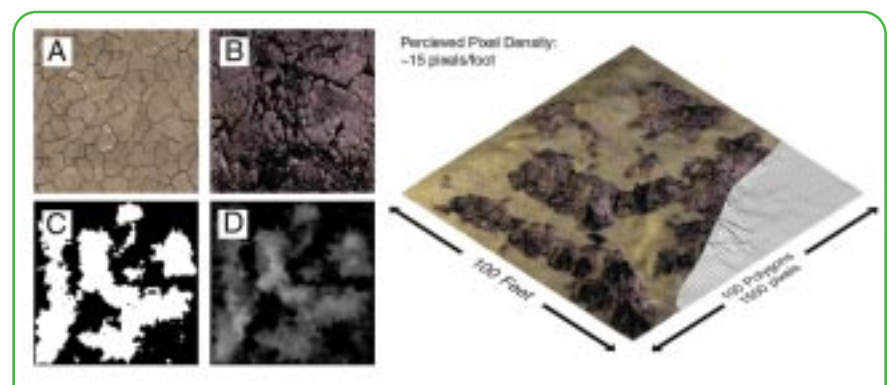

FIGURE 5. Multi-pass texture blending.
The multi-pass blending method as shown in Figure 5 is designed to eliminate these disadvantages. The terrain piece on the right has been generated with a combination of two tiling texture maps (A and B), blended together. The underlying terrain has an implicit mapping coordinate which tiles these textures five times along each axis. The large-scale, chroma-keyed alpha map (C) has a one-to-one tiling with the terrain, such that it is stretched over the entire terrain piece. (This is for purposes of discussion only, the map can easily be subdivided arbitrarily to yield what-